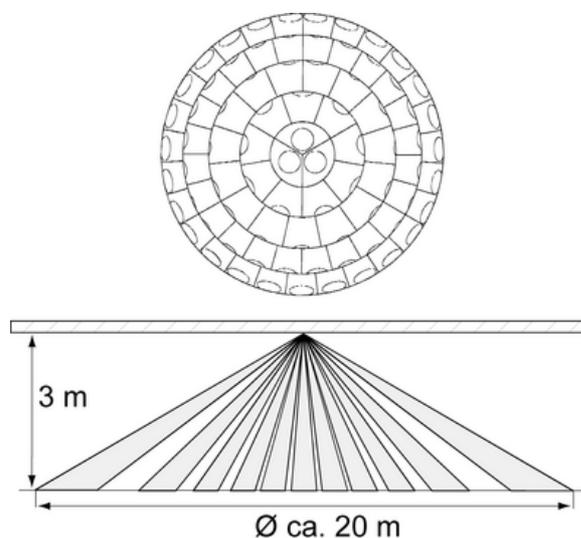
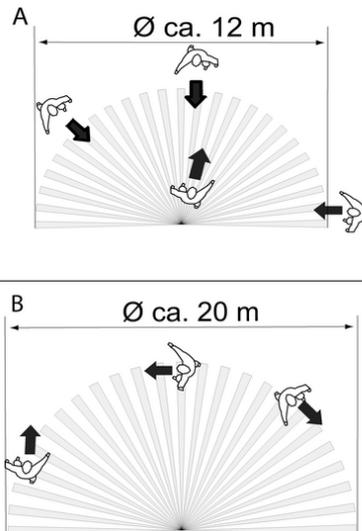

Figure 2: Sensor window and detection area
Figure 3: Detection area dependent on the direction of movement
The motion detector has a detection area of 360° (Figure 2). The diameter of the detection area depends on the installation height and the direction of motions of persons in the detection area (Figure 3). At an installation height of 3 m the maximum diameter on the floor is approx. 12 to 20 m.
- i Note direction of motion (Figure 3). Motions that are transverse to the motion detector (Drawing B) can be detected better than motions towards or away from the motion detector (Drawing A).